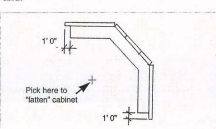

Figure 4
6. Following the dimensions in figure 4, use a combination of picking and object snapping to position your toe-kick base along the wall. Draw it as you would a wall, picking to the inside of the kitchen area to "fatten up" the other side, as shown in this same figure. You'll notice a cap is drawn at the beginning of the "wall." When you're through drawing, press mouse button 3 to quit. This will draw a final cap on the last end.